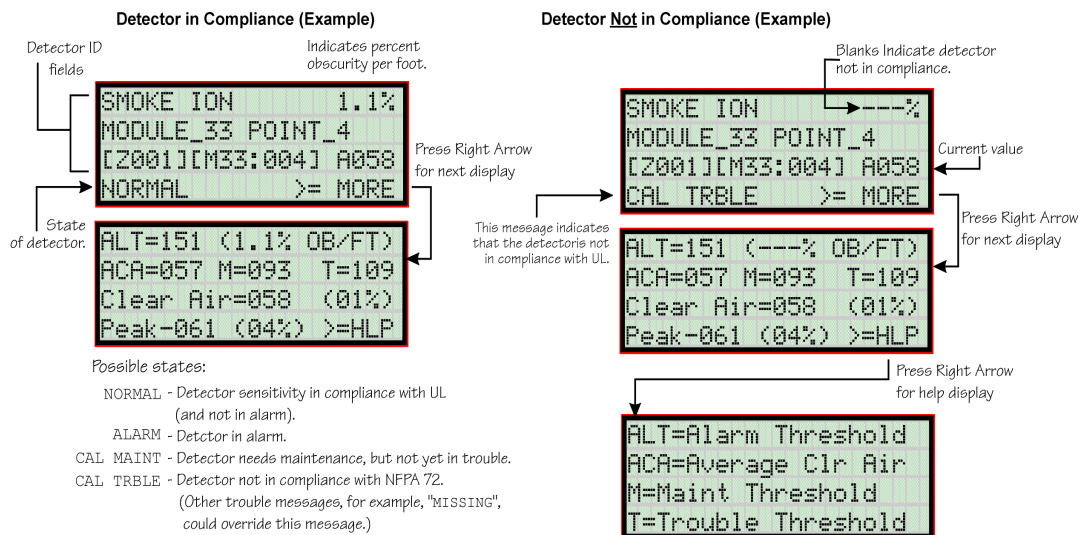

Figure 8-4 Checking Detector Sensitivity Compliance
5. A screen similar to those shown in Figure 8-4 will display.